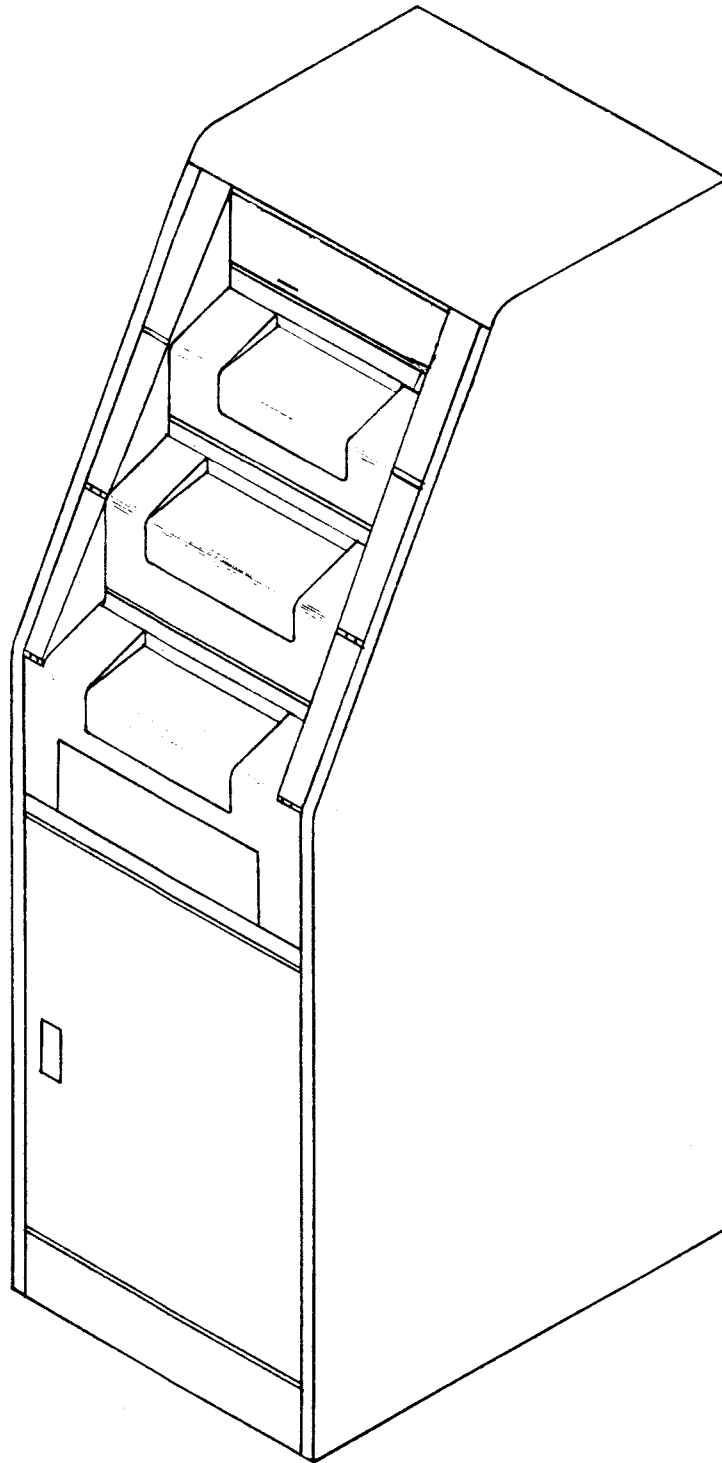

FIGURE 1. LBAC233**, LBAC235**, LBAC241**,
e. The LBAC235** (Figure 1) Cabinet is similar to the LBAC233** Cabinet except for the following: